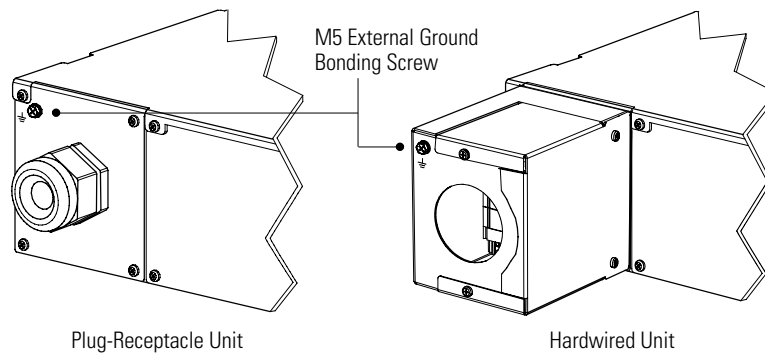

Figure 6. Ground Bonding Screw
1. Verify that the RPM-3U/3Ui is properly installed in the rack or wall-mount brackets and that each circuit breaker on the RPM-3U/3Ui front panel is in the OFF (O) position. The Power indicator should be off.
2. If your rack has conductors for grounding or bonding of ungrounded metal parts, connect the ground cable (not included) to the ground bonding screw on the RPM-3U/3Ui rear panel. Figure 6 shows the location of the ground bonding screw.